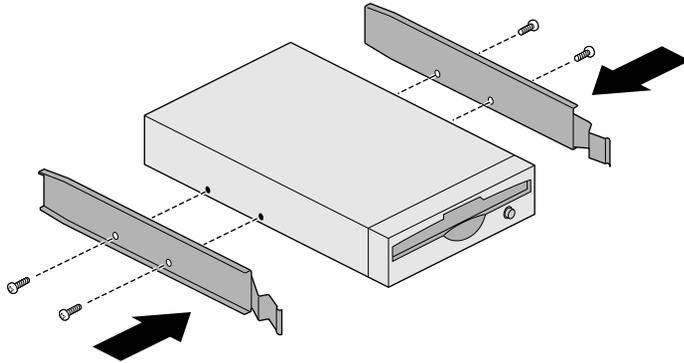

Figure 4-3 Attaching the Sleds to a Removable Media Drive
6. Attach a sled to each side of the drive, as shown in Figure 4-3.